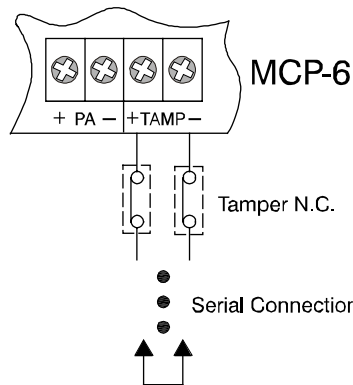

Fig. 3.4 Tamper loop connection
Tamper loop (NC) is provided to prevent sabotage of alarm detection devices. The tamper output of all alarm detection devices should be connected in serial with “TAMP” terminals of MCP-6 series as the figure 3.4 shown.